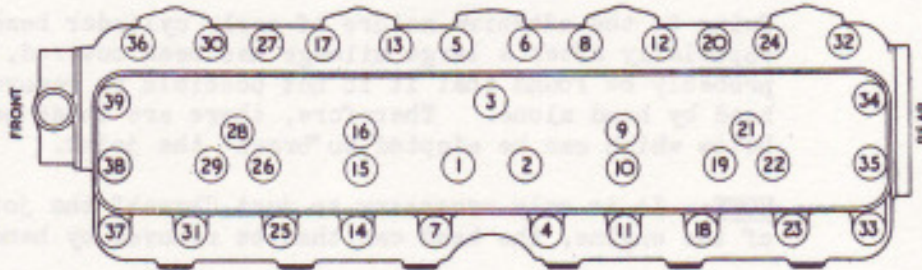

FIG. 9. ORDER IN WHICH THE CYLINDER HEAD NUTS SHOULD BE TIGHTENED.
- (iii) Lower the head squarely and carefully into position over the studs. Refit cylinder head nuts and plain washers and tighten them gradually, in the sequence shown in Fig. 9. Too much emphasis cannot be laid upon necessity for exercising care in tightening down the nuts which secure the head. These should be screwed down very gradually using a Break Back Torque Spanner set to break at 280 lbs./ins. commencing with those at the centre of the head and working outwards towards the two ends.